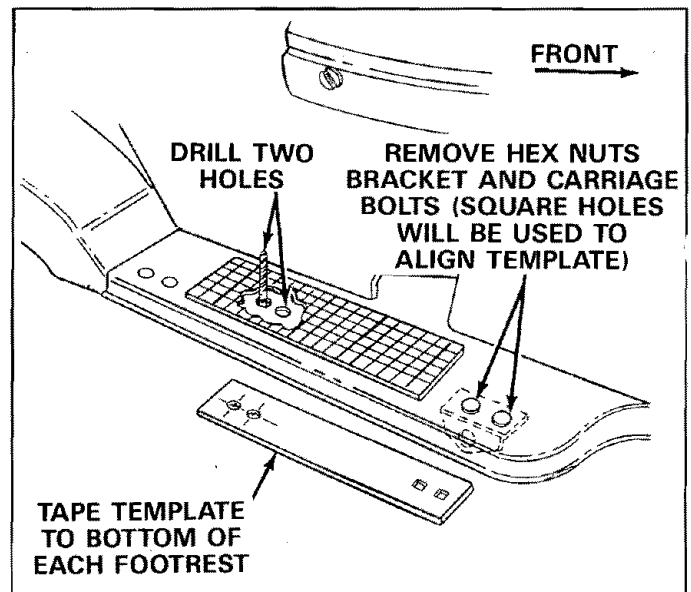

**FIGURE 10**
- Assemble blade assembly to channel assembly by sliding one end of pivot bar into right hand bracket and then sliding back into left hand bracket. See figure 10. Secure by assembling two 1/8" x 1" cotter pins into small holes near ends of pivot bar. Spread ends to retain.
5/16" hex nut removed earlier. Do not tighten 5/16" hex nut at this time. Push down on the spring and hook end of spring over rod bracket as shown in figure 10. Tighten 5/16" hex nut on top edge of blade down against the bottom 5/16" hex nut. Replace plastic cap over end of adjusting bolt threads. See figure 10.